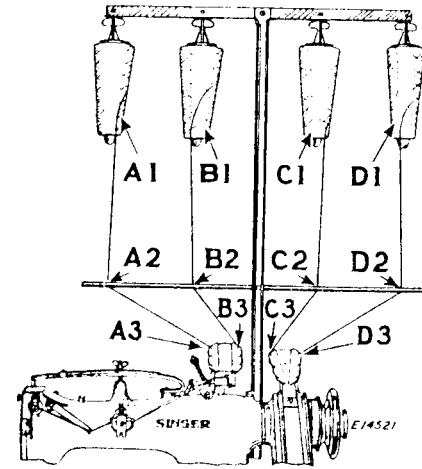
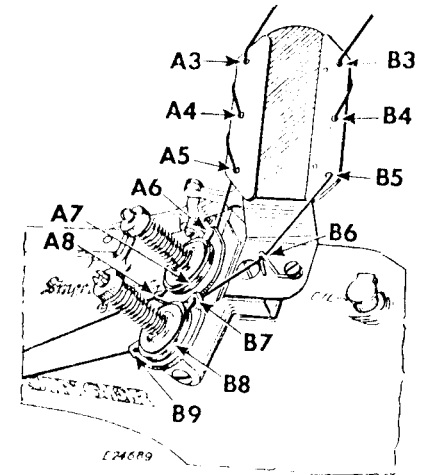
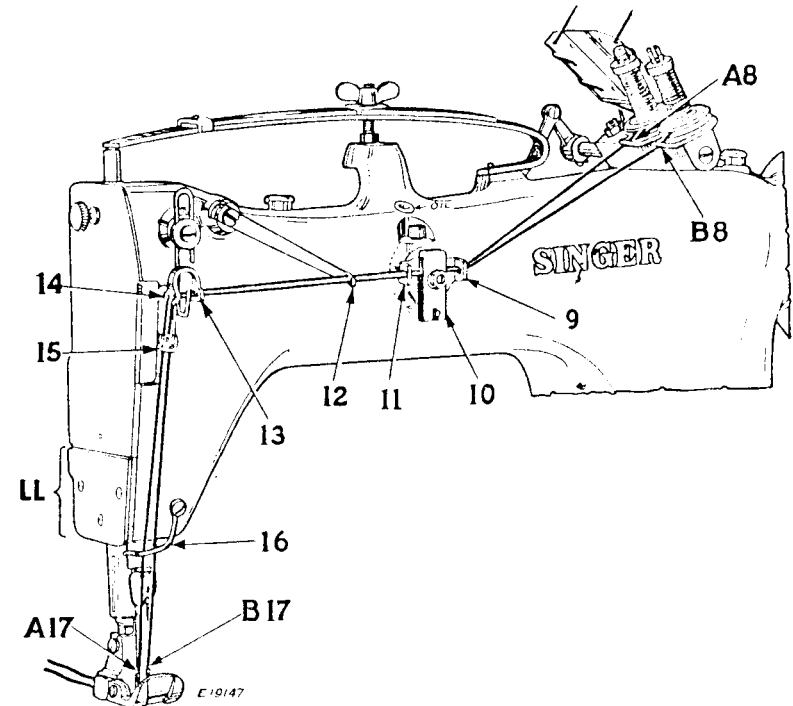

Fig. 6
Fig. 7
Fig. 8
Note: If an excessive amount of oil should flow into the reservoir (LL, Fig. 8), see instructions for replacing the wicking in the arm shaft crank on page 19.
TO THREAD THE LEFT NEEDLE, bring the thread from the left spool (A1, Fig. 6) on the unwinder, down through the hole (A2) in the thread guide bar, then down through each of the eyelets (A3, A4 and A5, Fig. 7) in the thread straightener as shown. Pass the thread through eyelet (A6), around and between the rear tension discs (A7), through eyelet (A8), through the needle thread nipper guide (9, Fig. 8), between the second and third tension plates of nipper (10), through nipper guide (11), through the rear eyelets in the slack thread regulator (12) and the take-up thread guides (13 and 14), down under the retainer plate and through the rear eyelet in the take-up (15), down behind the wire guide (16), and from front to back through the eye of the left needle (A17).
TO THREAD THE RIGHT NEEDLE, bring the thread down from the second spool (B1, Fig. 6) on the unwinder, down through the hole (B2) in the thread guide bar, then down through each of the eyelets (B3 and B4) and up through the eyelet (B5, Fig. 7) in the thread straightener as shown. Pass the thread through eyelet guide (B6), through eyelet (B8), around and between the front tension discs (B7), through the eyelet (B8), through the needle thread nipper guide (9, Fig. 8), between the first and second plates of the nipper (10), through the nipper guide (11), through the front eyelets in the slack thread regulator (12) and take-up thread guides (13 and 14), down under the retainer plate and through the front eyelet in the take-up (15), down behind the wire guide (16), and from front to back through the eye of the right needle (B17).
TO THREAD THE FRONT LOOPER or the one nearest the operator, bring the thread from the right-hand spool (D1, Fig. 6) on the unwinder, down through the hole (D2) in the thread
TO THREAD THE REAR LOOPER, bring the thread from the spool (C1, Fig. 6) on the unwinder, down through the hole (C2) in the